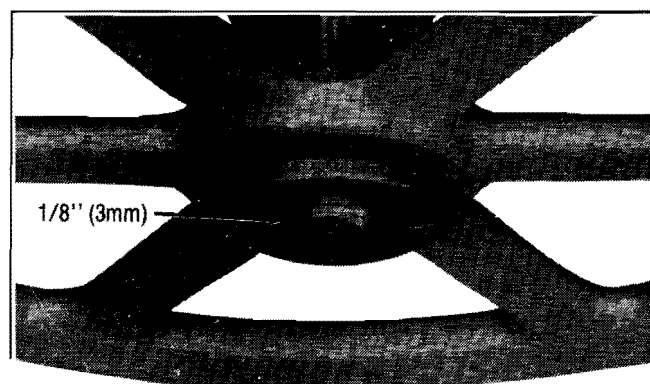

Figure 8 Drive Pulley Location
- 1. POSITION:** Proper drive pulley location is achieved by mounting it with 1/8" (3mm) of shaft protruding as shown in Fig. 8.